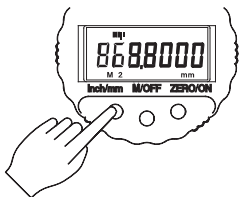

Figure 6 - Moving the Cursor Position
- 4) Press and release **inch/mm** to move the cursor to the position above the digital character to be changed. Continuous use of inch/mm will cause the cursor to move one space at a time to the right and then begin again at the leftmost position (Figure 6).